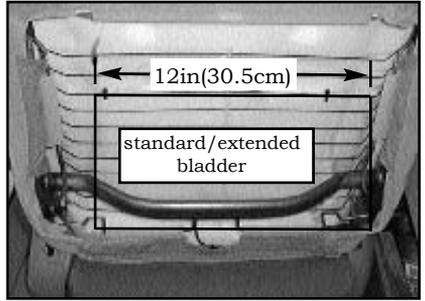

FIGURE 1
- A. **STANDARD/EXTENDED/SMALL BLADDER (FIGURES 1 & 2)** Insert bladder between springs and seat back cushion (inflatable bag toward cushion and tube down). route tube to the right and guide tube next to seat hinge and exit under seat. Make sure tube routes inside of the seat hinges, not around the outside. Use tie straps to secure bladder back to seat springs.